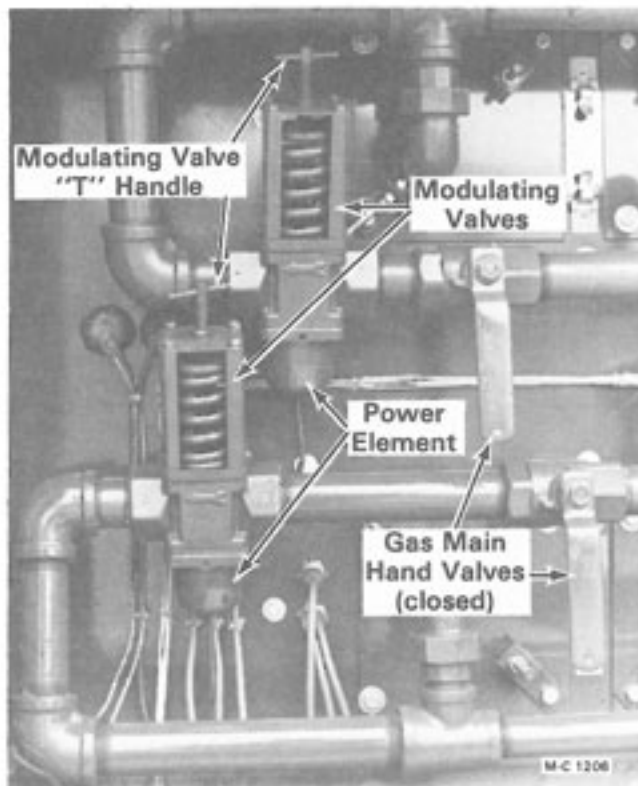

Figure 9 - Two Burner Cabinet
4. Open the gas main hand valve (Figure 9) $\frac{1}{4}$ of the way. Flip the bottom burner ignition switch ON. After a ten (10) second delay the gas valve light will be ON and the burner will light.